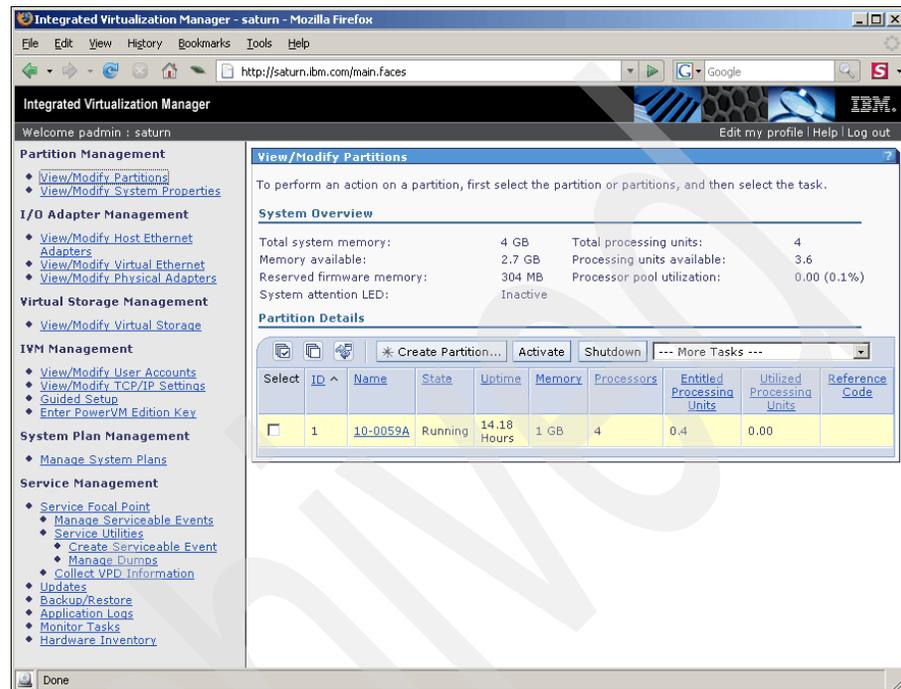

Figure 4-12 View/Modify Partitions page after logon
- Depending on the setup of your IVM, you will be at the Guided Setup or on the View/Modify Partitions page. Figure 4-12 shows the usual page that you see after logon when the IVM is fully configured.